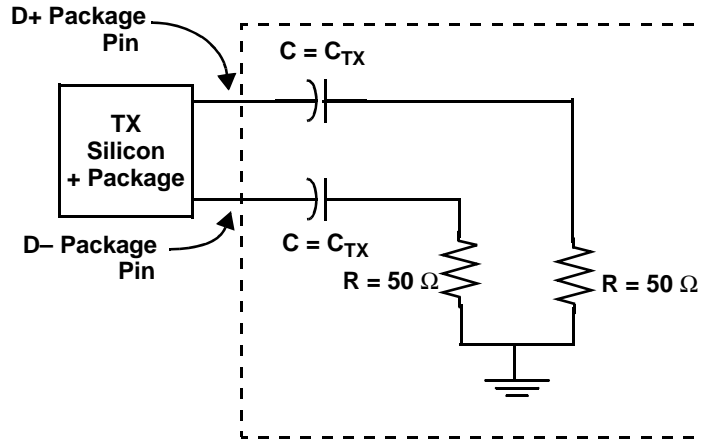

**Figure 18. Single Frequency Sinusoidal Jitter Limits**
2. Total jitter is composed of three components, deterministic jitter, random jitter, and single frequency sinusoidal jitter. The sinusoidal jitter may have any amplitude and frequency in the unshaded region of Figure 18. The sinusoidal jitter component is included to ensure margin for low frequency jitter, wander, noise, crosstalk, and other variable system effects.
1. See <a href="#">Figure 18</a> for single frequency sinusoidal jitter limits
2. Refer to RapidIO™ 1x/4x LP Serial Physical Layer Specification for interpretation of jitter specifications. Also see <a href="#">Figure 18</a> .